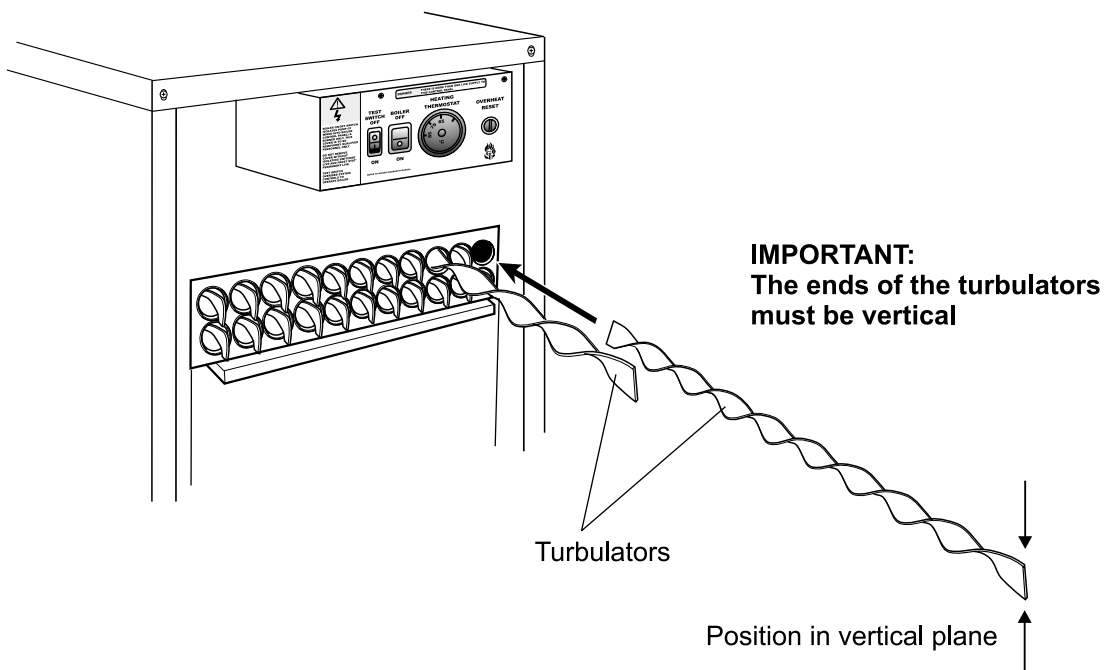

Fig. 21
IMPORTANT: Check that the turbulators are in position and that the ends are vertical (see Fig. 21).
- 7 Pull out the spiral turbulators from the heat exchanger tubes. See Fig. 21.